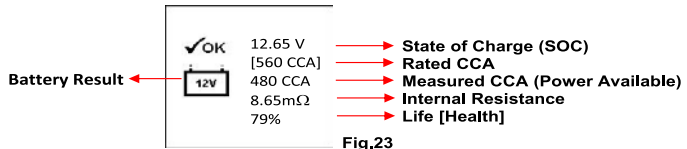

Fig.23
13. For less than 8 seconds, the results of the test will be displayed on the LCD screen (Fig.23) if the battery condition is very good (e.g. having more than 75% Life).